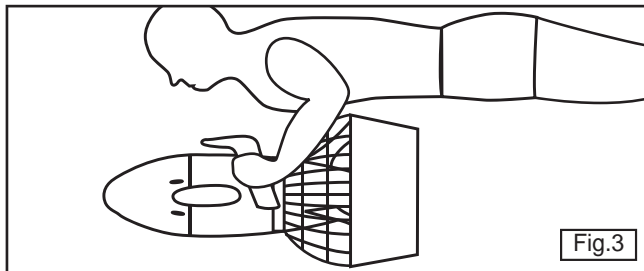

Fig.3
8. Proper posture when using the SEA-DOO® SEASCOOTER™ is important to achieve the maximum speed - see figure 3 for the correct position of the SEA-DOO® SEASCOOTER™ when using it.